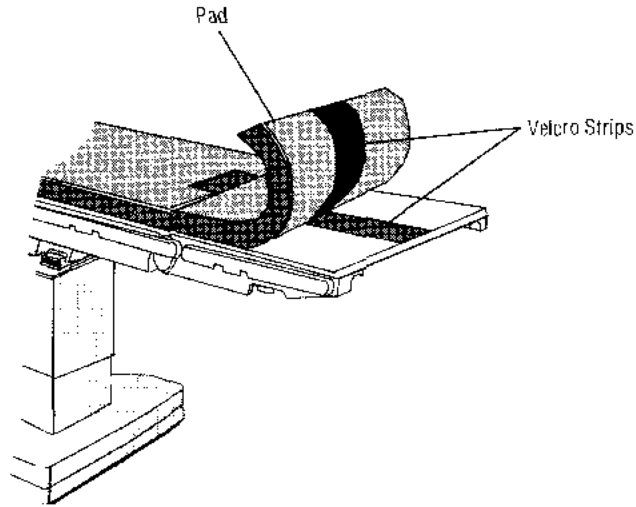

Figure 4-10. Tabletop Pads
Mattress pads are backed with Velcro® (Velcro Corp.) strips which fasten to companion strips on the tabletop (see Figure 4-10).
1. To install tabletop pad, place pad in position and press Velcro strips together (see Figure 4-10).